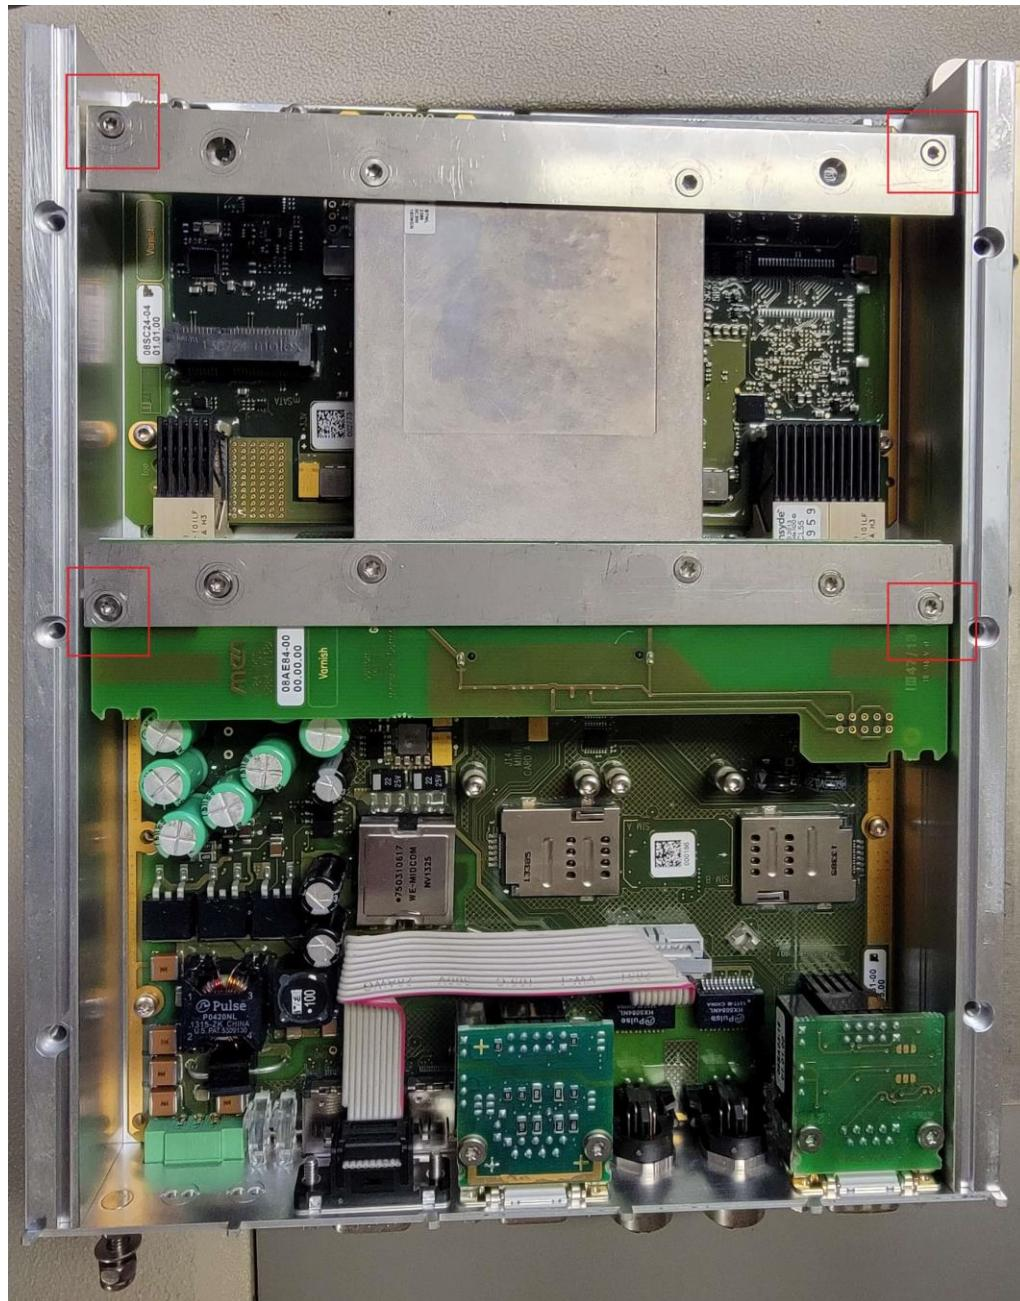

Figure 8-27: CCU / MDS SSD Assembly with T8 Screws
2. Remove the (4) T8 screws at the corners of the solid state drive assembly. See Figure 8-27.